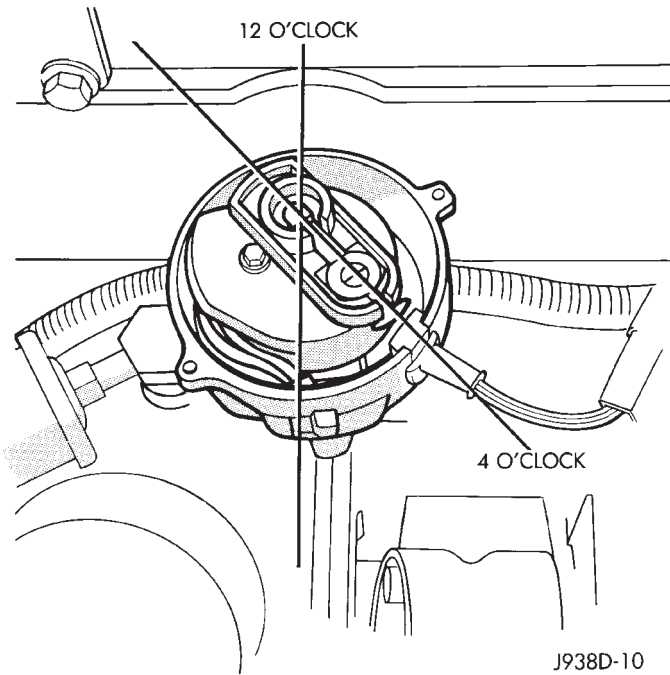

Fig. 18 Rotor Alignment—4.0L Engine
(5) Turn the rotor to the 4 o'clock position (Fig. 18).
(6) Slide the distributor down into the block until it seats. Keep the holddown ear aligned to the hole in the block.
(7) The rotor should be in the 5 o'clock position. This is with the trailing edge of rotor blade lined up with scribe mark on distributor housing (number one spark plug cable post location).
(8) Install the distributor holddown clamp bolt and tighten to 23 N•m (17 ft. lbs.) torque.